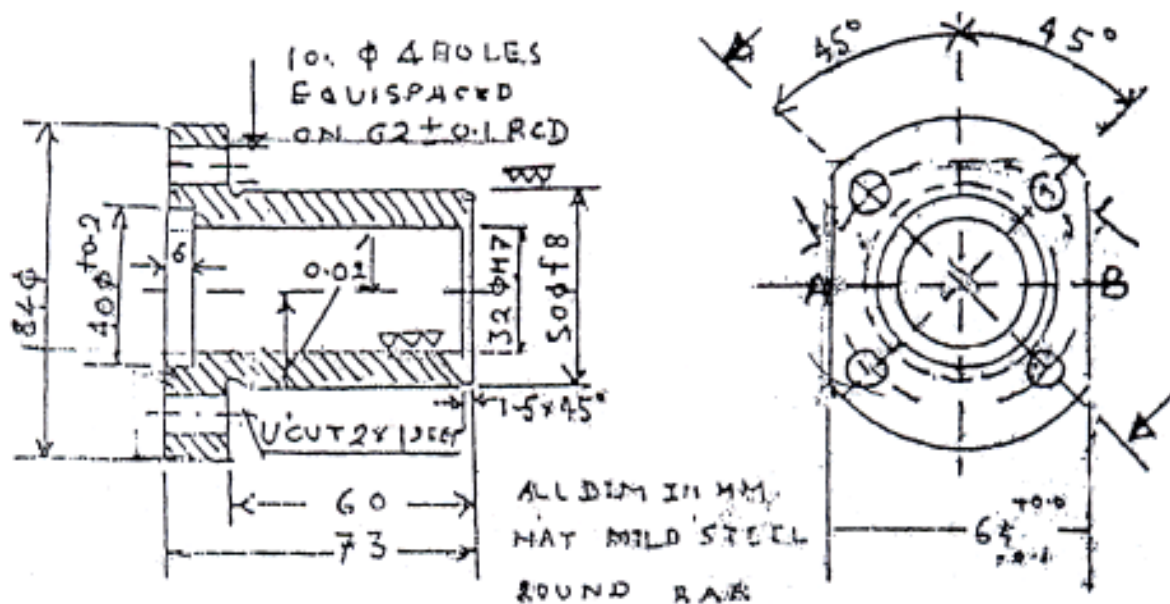

Fig. No. 1
11. Design a jig for drilling ϕ 10 mm holes for a component shown in fig.no.1. 20
12. Design a milling fixture to mill at face A & B for a component shown in fig. no. 1. Draw minimum two views of your design, show the component in position, name all important elements in drawing, write a part list of your design and draw detail view for locating, clamping and bushing. 20